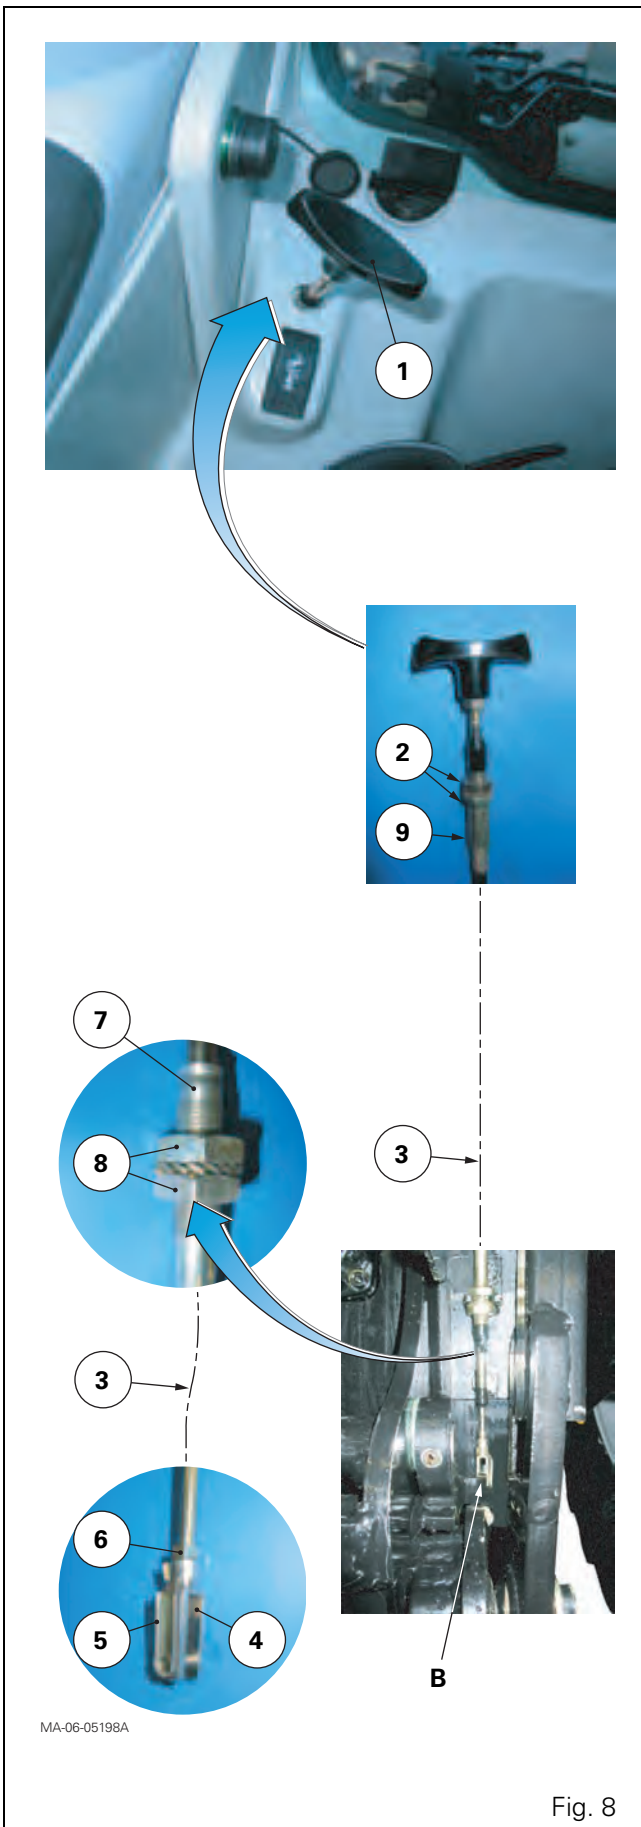

Fig. 8
Unlock the mobile support, using the handle (1) located in the cab at the back of the seat (Fig. 8).
Fitting and adjusting the control cable (Fig. 8)
Fitting and adjusting the cable on the auto-hitch (Fig. 8)